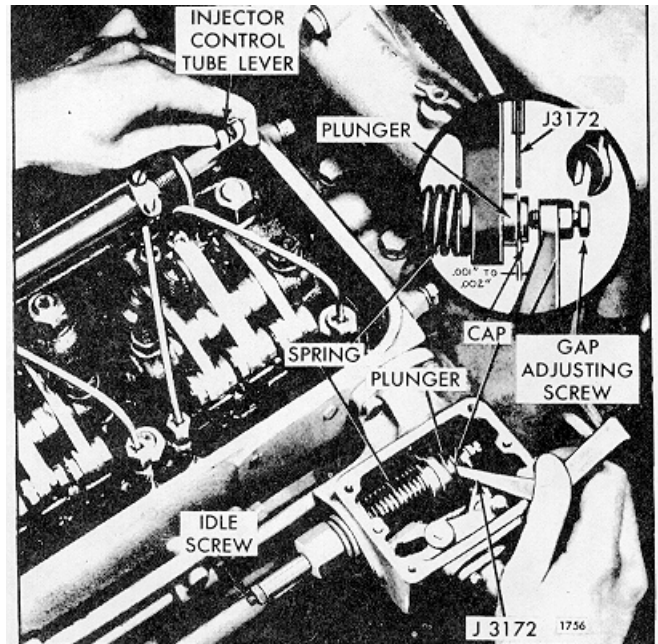

Fig. 2 - Positioning No. 1 Injector Rack Control Lever
- 2 Back out the buffer screw until it extends approximately 5/8" from the lock nut (Fig 2).
Adjust the No. 1 injector rack control lever (267), Fig. 2, first to establish a guide for adjusting the remaining injector rack control levers.
- 4 Move the governor speed control lever to the maximum speed position as shown in Fig 2. Hold the lever in that position with light finger pressure. Turn the inner adjusting screw on the No. 1 injector rack control lever down until a slight movement of the control tube is observed or a step up in effort is noted. This will place the No. 1 injector rack in the full-fuel position. Turn the outer adjusting screw down until it bottoms lightly on the injector control tube.